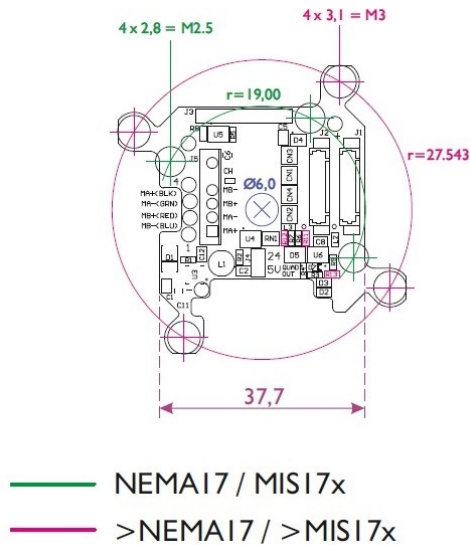

Figure 6 Mounting PA0260.
- 1) On NEMA17 drill and cut internal thread in mounting holes according to Figure 6 NEMA17. On NEMA23 drill and cut internal thread in mounting holes according to Figure 6 >NEMA17.